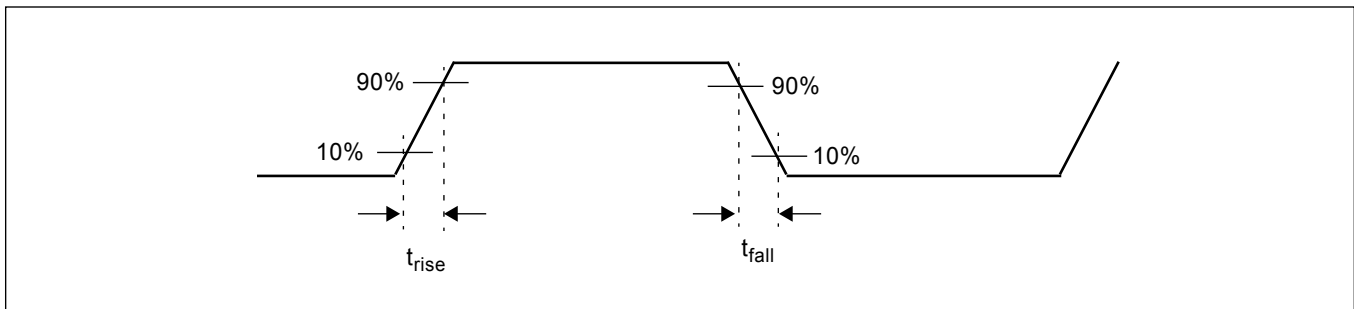

**Figure 38 - Output Duty Cycle**
**AC Electrical Characteristics - Output Clock Duty Cycle1 (See Figure 38).**